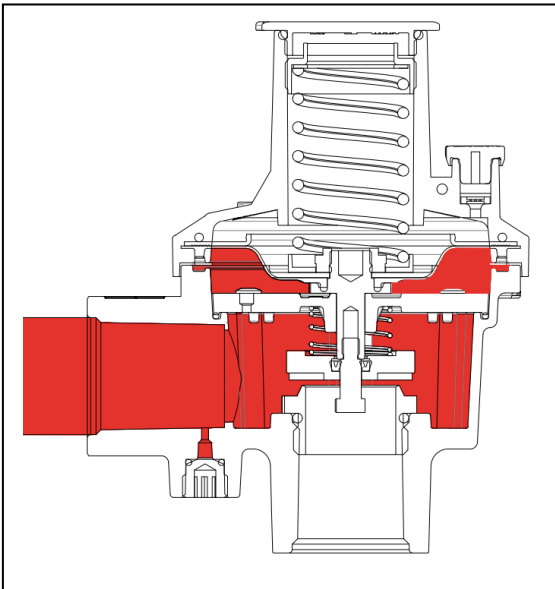

Figure 5.
- Appropriate connection ports and/or nipples for measuring pressure or pressure differential (see Figure 5)
- Connection ports and/or nipples for venting hazardous gas accumulations from the device (see Figure 5)